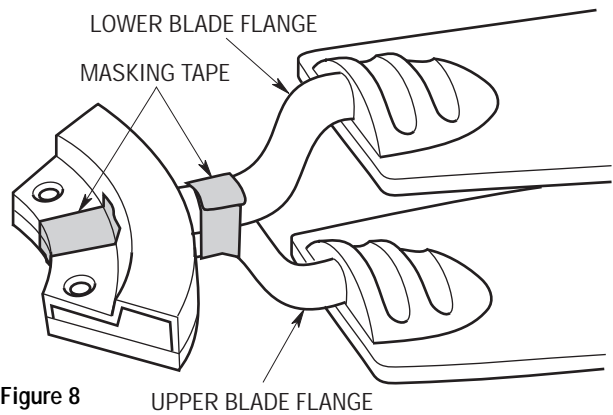

Figure 8
12. Position the lower blade flange on the upper blade flange (Figure 8) and secure the flanges to each other using several strips of masking tape. (The masking tape will be removed later.)